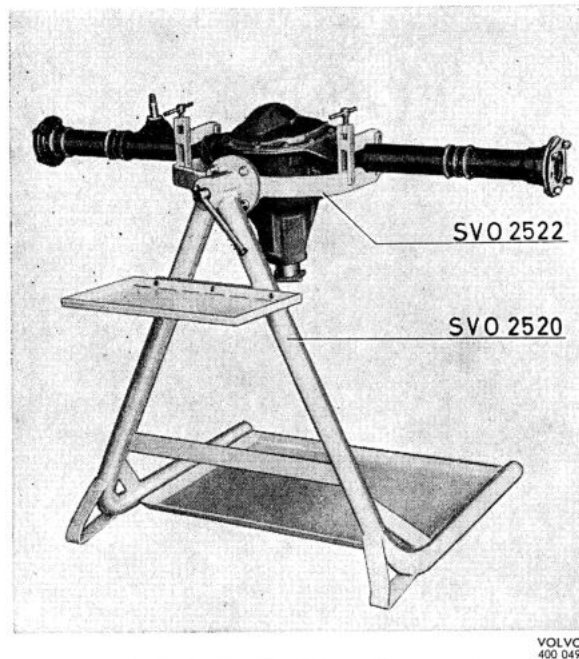

Fig. 4-132. Stand and fixture for rear axle
- SVO 2520 Stand, see Fig. 4-132